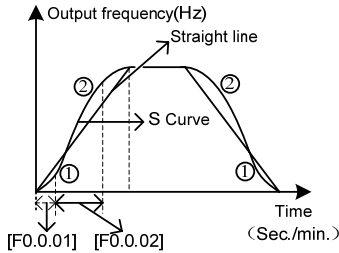

Figure 7-21 Acceleration and deceleration curve
As shown in item ① in Figure 7-21, the acceleration starting/deceleration ending period of S curve can be indicated by the percentage of total acceleration and deceleration time.
As shown in item ② in Figure 7-21, the acceleration rising/deceleration decreasing period of S curve is indicated by the percentage of the total acceleration and deceleration time.